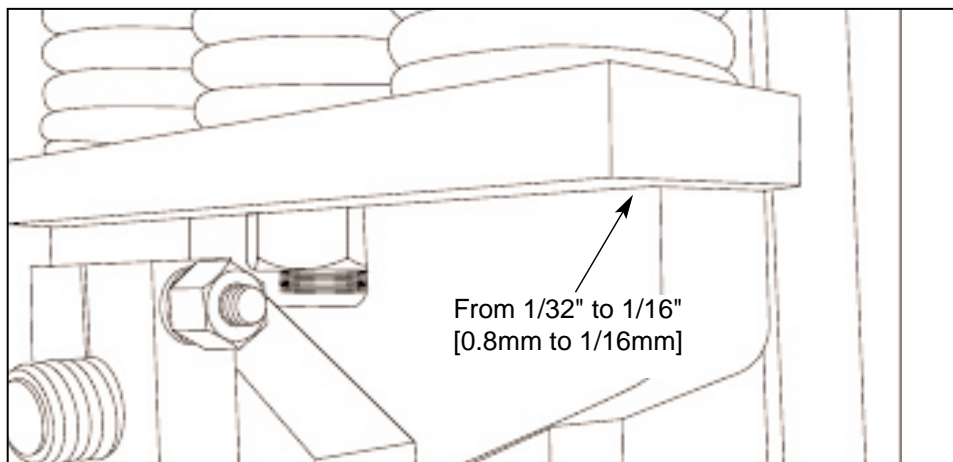

Figure 5.37 SPRING OPENING.
- 5.9.2 The spring opening should be between $1/32"$ [0.8mm] and $1/16"$ [1.6mm] maximum (see figure 5.37). This is all that is required to make most units on a DYNAPAC.